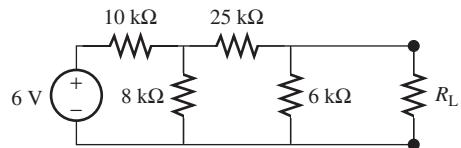

FIGURE P3.54 Circuit for Problem 3.54.
- 3.54 (A)** Find the Thévenin equivalent resistance and voltage as seen by R_L for the circuit in Figure P3.54.
- 3.82** (A) Use PSpice to find the Thévenin equivalent resistance and voltage as seen by R_L for the circuit shown in Figure P3.54.